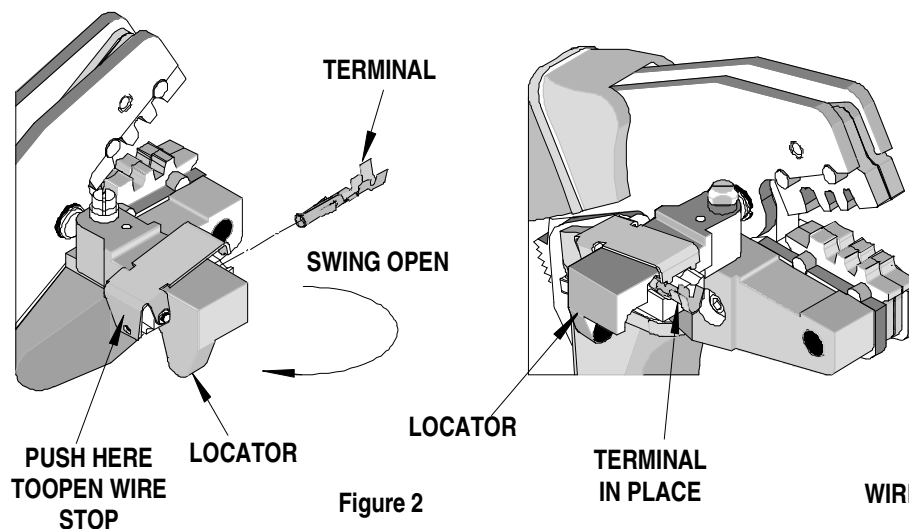

Figure 2
2. Swing the terminal locator away from the crimp tool shown in Figure 2. Some terminals with large insulation grips may interfere with the crimp tooling when swinging the locator into position. The terminal must then be loaded into the locator in the closed/crimp position.
3. When using the locator, press down on the wire stop on the locator as shown in Figure 2. Insert the proper terminal into the proper nest opening. Make sure when choosing the nest opening, it will correspond with the A, B, or C profile on the hand tool.